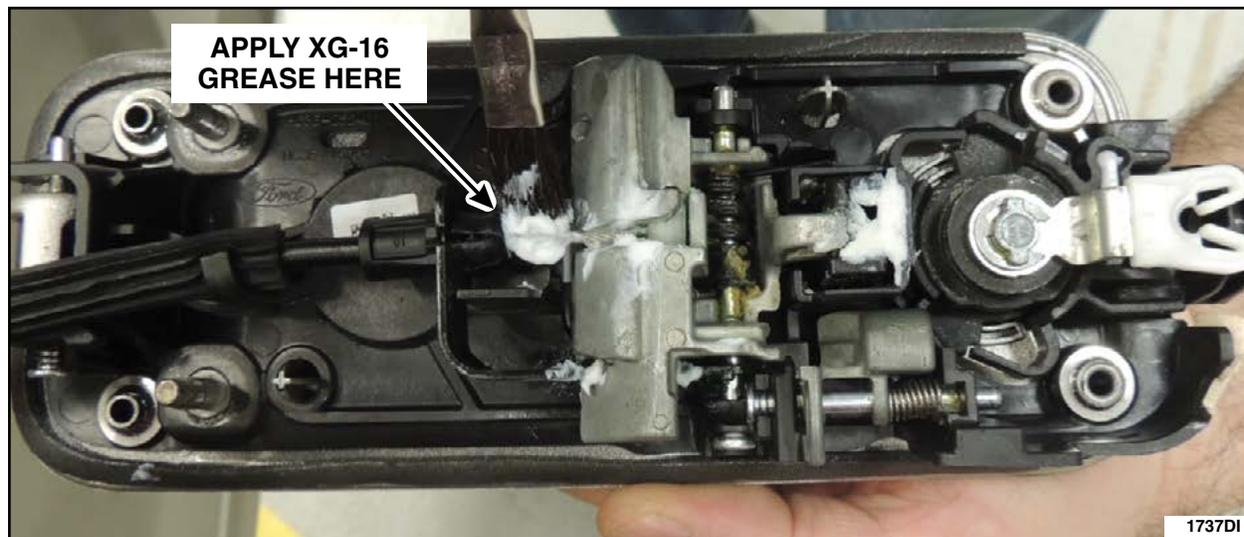

FIGURE 52
21. Reconnect the exterior door handle cable to the door handle, then lubricate the door handle cable end with Motorcraft® XG-16 low temperature grease, as shown in Figure 52.